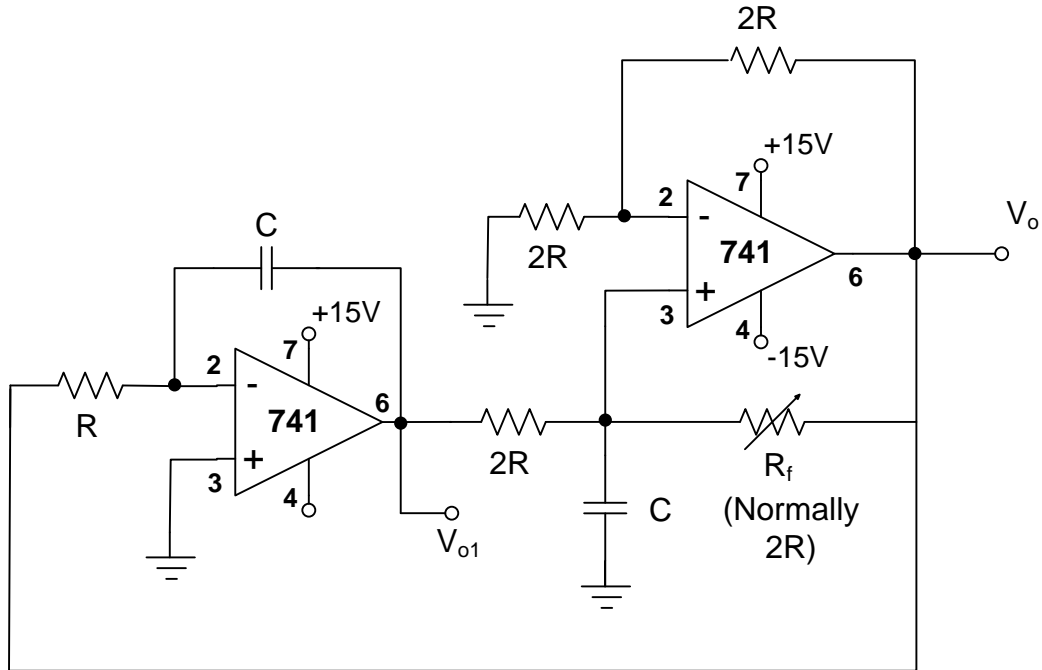

Figure 4: The Quadrature Oscillator
The circuit of the Quadrature Oscillator is shown in Figure 4. Since amplifier 1 is used as an integrator. The phase shift between the signal at V_o and V_{o1} will be always 90 (i.e. the circuit provide two sinusoidal output in quadrature). Such quadrature oscillator has wide range of application in communication and control.
3. Design the oscillator of Figure 4 to provide frequency of oscillation at 2.1kHz. Use equal capacitors of $15nF$.